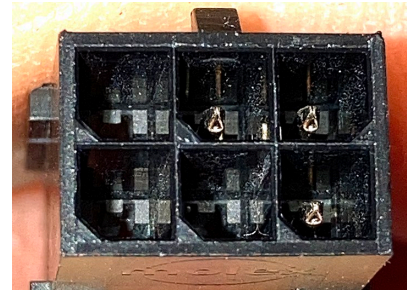
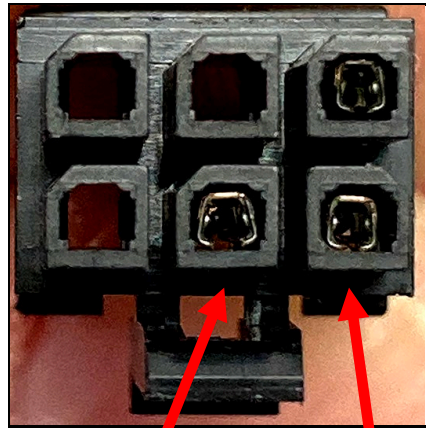
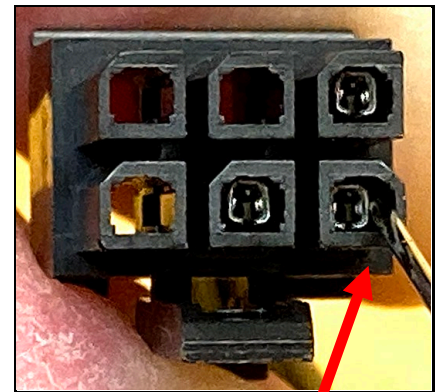

Figure 10
Figure 11
Figure 12
7. Using electrical contact cleaner, clean **BOTH** CAN connectors on the rear of the controllers, with the male pins (see Figure 10).
8. Disconnect and reconnect the CAN cable to both controllers six (6) times.
9. Inspect the CAN cable connectors to ensure **ALL** pins are fully seated into the connectors. Inspect the CAN cable connectors for spread pins (see Figure 11). **NOTE:** The middle pin is spread open compared to the other pins. This may cause intermittent or constant communication issues.
10. If any pins are spread as shown in Figure 11, take a small screwdriver or sharp object that will slide down between the notched side of the connector and the side of the pin. Gently push the sides of the pin back together so the pins make a positive contact (see Figure 12).